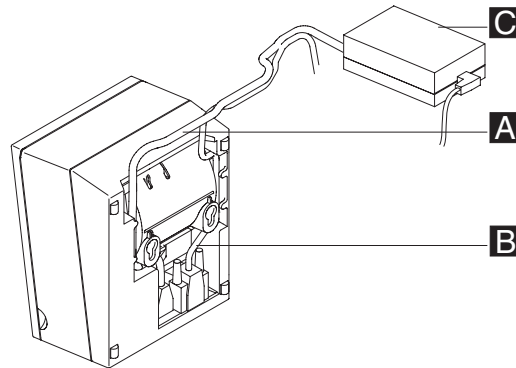

Figure 103. Attaching and routing the RS-232 and power supply cables to the printer.
2. Connect and route the RS-232 communication cable **A** and the power supply cable **B** as shown in Figure 103.
1. Install the printer cables and route the cables as shown in Figure 103 on page 123.